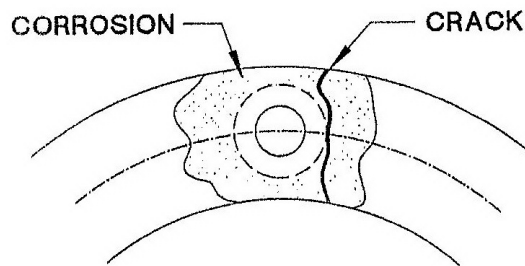

Figure 8 Disk is broken adjacent to washer face with fretting corrosion in the area of the crack. This indicates excessive misalignment during operation.
4. Disk is broken adjacent to washer face with fretting corrosion in the area of the crack. This indicates excessive misalignment during operation. See Figure 8. Replace both disk packs and realign the equipment. Make a hot check of alignment to ensure it is within the coupling specification.